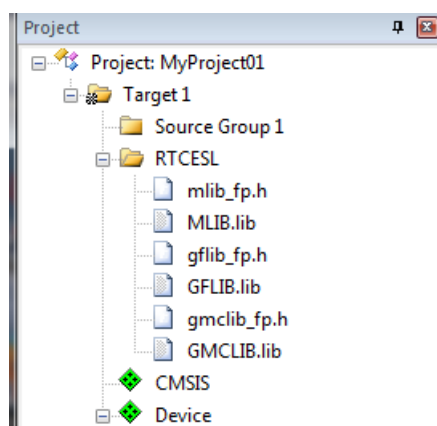

Figure 1-24. Project workspace
10. Now, all necessary files are in the project tree; see Figure 1-24. Click Close.